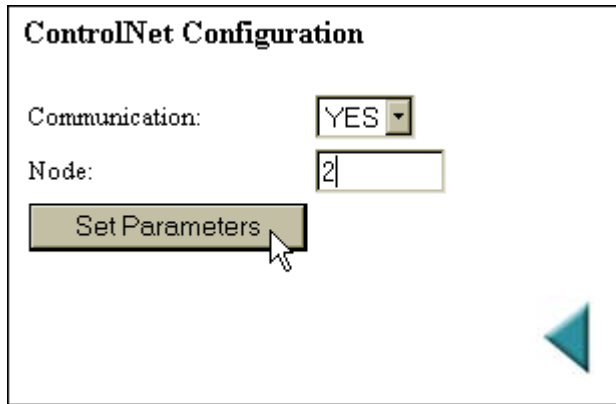

FIG. 62: CONTROLNET CONFIGURATION/ENTERING NODE ADDRESS
Step 7. Type in the Node address for the instrument you are configuring. In our example we used Node Address #2. (See Fig. 62)